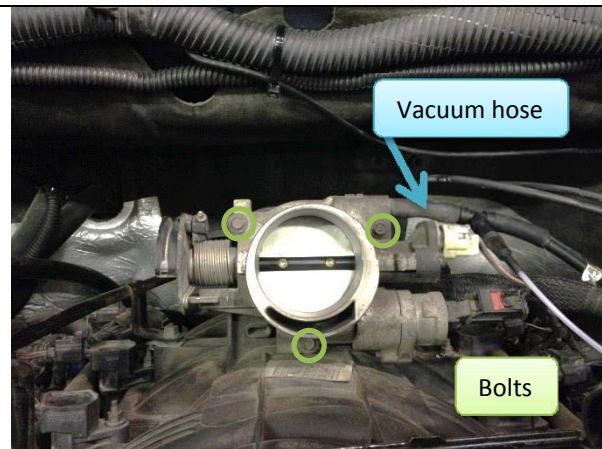

Figure 11: Throttle body bolts.
- 7.4. Remove three 8mm bolts (Figure 11)